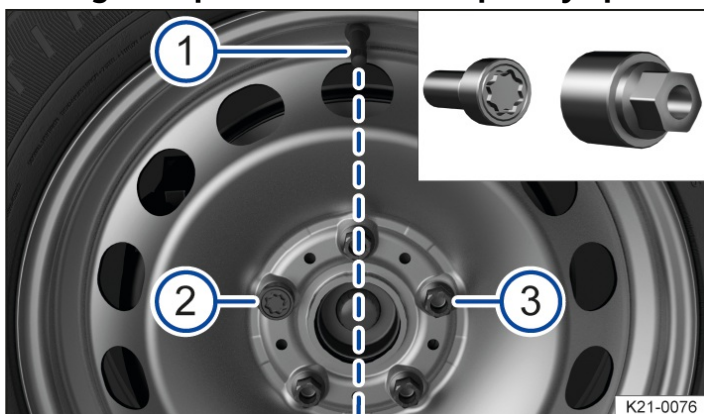

Fig. 2 Correct position of the anti-theft wheel bolt.
On wheels with a wheel cover, the anti-theft wheel bolt must be screwed in at position → Fig. 2 (2) or (3) according to the position of the tyre valve (1). The wheel cover can otherwise not be fitted.